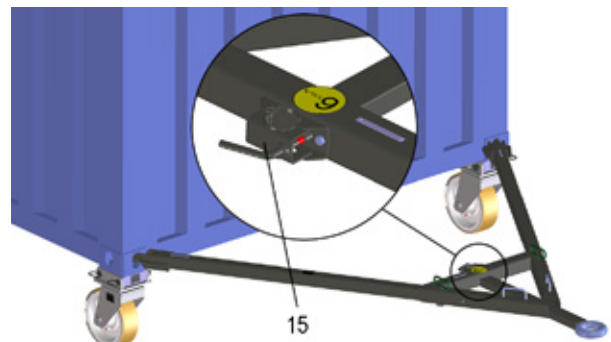

fig. 6-13
- It is recommended to use the parking support when hitching the drawbar. The parking support can be mounted at the optimal clamping element (fig 6-13). Once you have done so, vacate the danger zone between the vehicle and the container immediately.